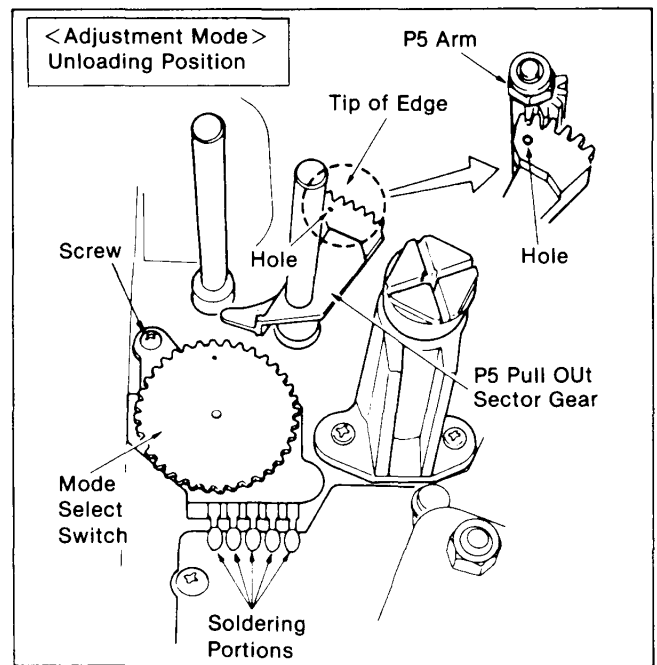

Figure M56
3. Install the P5 Pull Out Sector Gear so that the hole of P5 Pull Out Sector Gear aligns with the tip of gear at P5 Arm as shown in Figure M56.